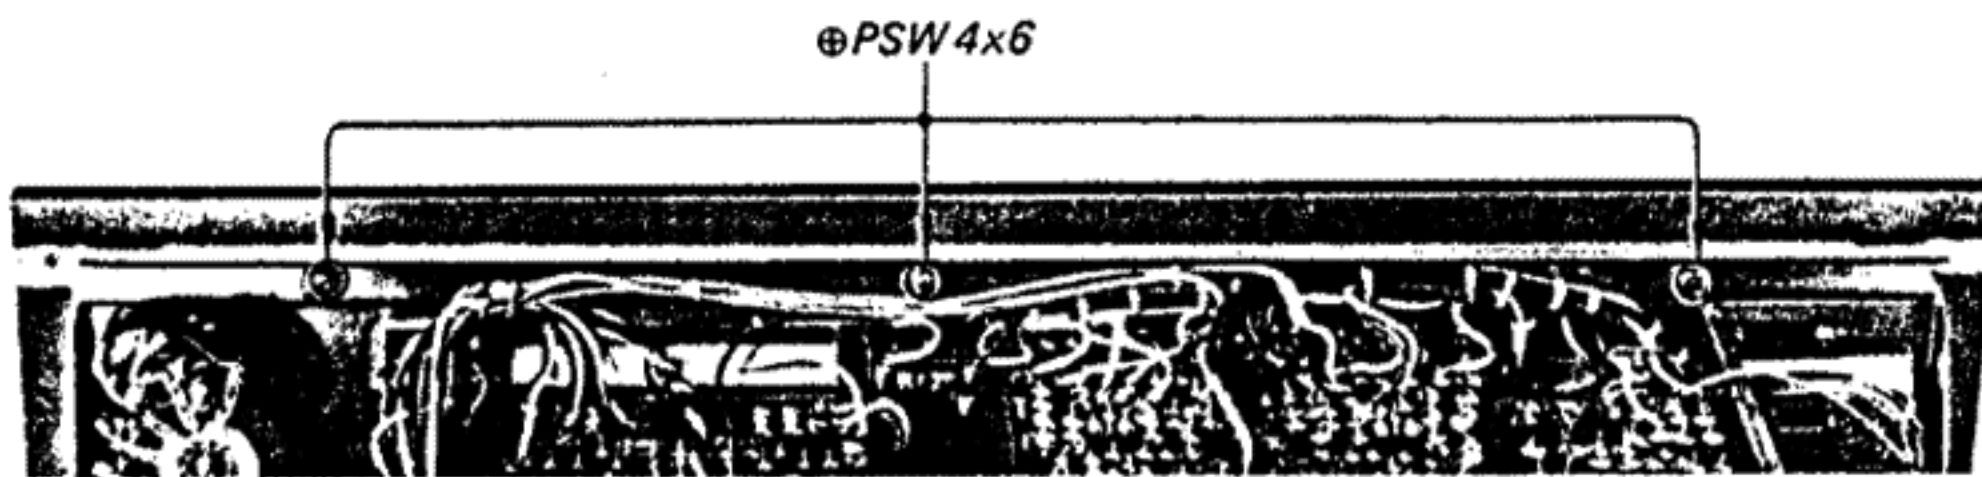

Fig. 2-2. Front panel removal
3. Remove the three screws (⊕ PSW 4x6) behind the top edge of the front subchassis as shown in Fig. 2-2.